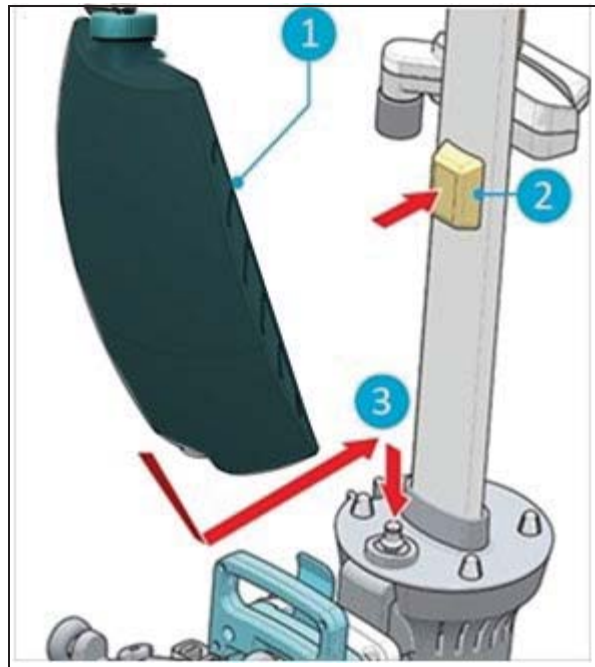

Figure 11
1. Put the tank (Figure 11, pos 1) on the i-mop® Lite with the valve first.
2. Press the tank downward on the nipple (Figure 11, pos 3) to open the valve seal.
3. Push the tank forward into place, the magnet (Figure 11, pos 2) will lock the solution tank in place.